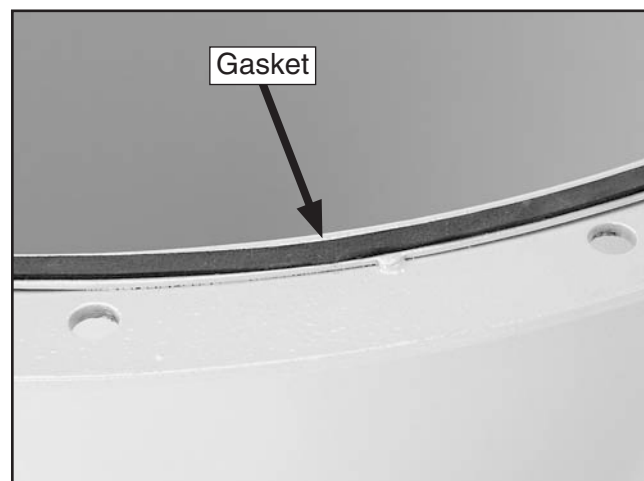

Figure 16. Gasket applied to the intake cylinder rim.
5. Place the intake cylinder on the floor and apply the 3 x 6 x 1800mm gasket to the intake cylinder top rim, between the mounting holes and the inside edge (see **Figure 16**).